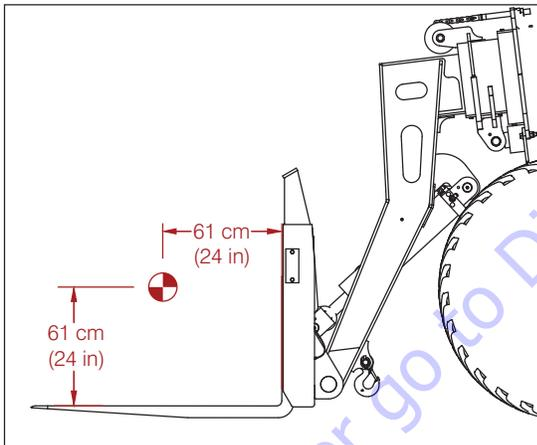

Figure 33 Load Center
- Ensure that the load center for the load is at or within 24 in of forks (see Figure 33).